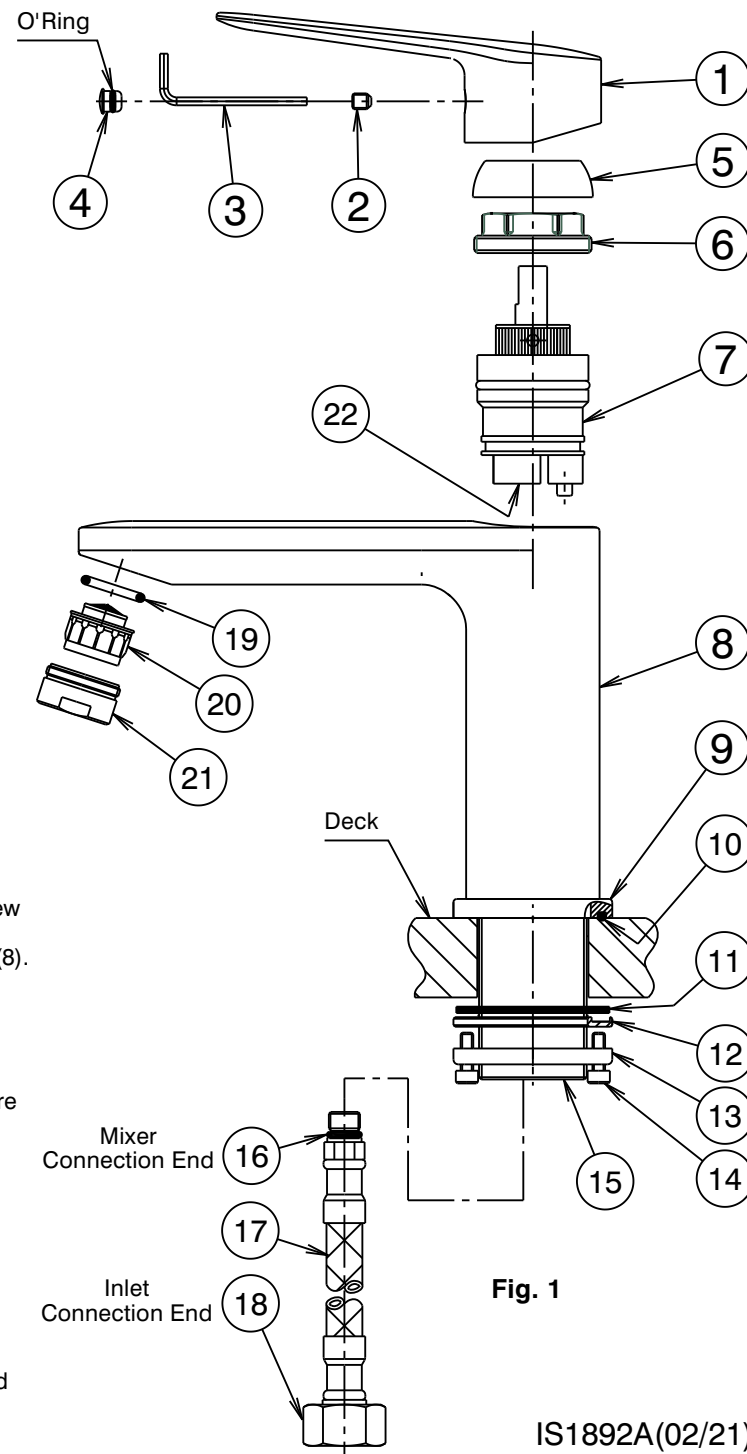

Fig. 1
- 1) From fixing pack fit 'O'ring (10) into groove in base ring (9). Slide the base ring over the threaded tube (15) & locate spigot of base ring (9) into base of mixer body (8), as shown.
- 2) **Flexible Tail Mixer Connections:** Apply suitable lubricant to 'O'rings (16). Fit flexible tail (17) (with red indication) into inlet hole marked with a Red Dot in underside of mixer body (8). Hand tighten the tail, ensuring the 'O'ring (16) has fully entered the sealing bore to provide a watertight joint. Fit other flexible tail (with blue indication) into remaining hole in a similar manner.
- 3) Insert the inlet connection end (18) of each flexible tail (17) through the hole in the deck. Insert threaded tube (15) of mixer (8) into deck hole, fit washer (12) together with flat seal (11) over threaded tube of mixer as shown in Fig. 1. Screw clamp ring (13) onto threaded tube until it contacts washer (12) & the flat seal (11) has contacted the underside of the deck. Tighten two screws (14) equally using a 3mm allen key until mixer assembly is clamped firmly to the deck. **DO NOT OVERTIGHTEN.**
- 4) **Flexible Tail Inlet Connections:** Connect the flexible tails (17) to the hot and cold isolating stop taps, hand tighten the connecting nut (18) until rubber cone contacts the sealing face of the connection end, then tighten a further one turn to provide a watertight joint.